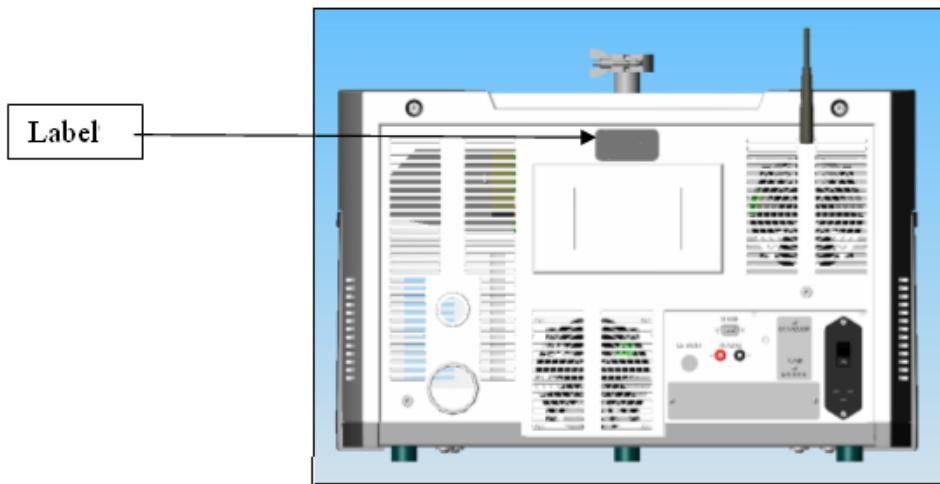

Figure 6: Label
20. Attach the label to the rear cover in location shown (Figure 6: Label).